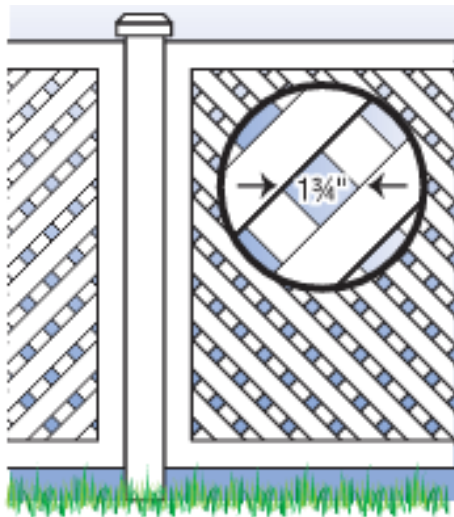

Figure 9
9. Where the barrier is composed of **diagonal members**, such as a lattice fence, the maximum opening formed by the diagonal members should be no more than 1-3/4 inches. (figure 9)
10. **Access gates** to the pool must be equipped with a locking device. Pedestrian access gates must open outward, away from the pool, and self-closing and contain a self-latching device. Gates other than pedestrian access gates must have a self-latching device. Where the release mechanism of the **self-latching device is located less than 54 inches** from the bottom of the gate: (figures 9 & 10)